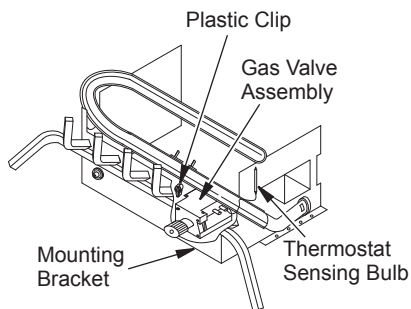
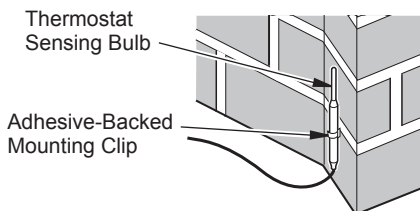
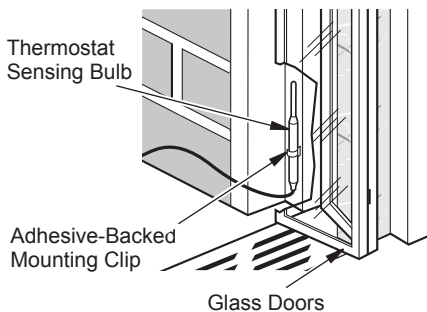

Figure 20 - Removing Thermostat Sensing Bulb
Figure 21 - Installing Thermostat Sensing Bulb on Masonry Fireplace
Figure 23 - Installing Thermostat Sensing Bulb behind Glass Door
3. The thermostat sensing bulb may be located to the lower right front side of fireplace. Determine location of sensing bulb, but do not mount sensing bulb until step 5. If you have a masonry fireplace, (see Figure 21 for location). If you have a factory-built metal fireplace, see Figure 20 for location. If your fireplace has glass doors, position sensing bulb directly behind door gap on right bottom side (see Figure 23).